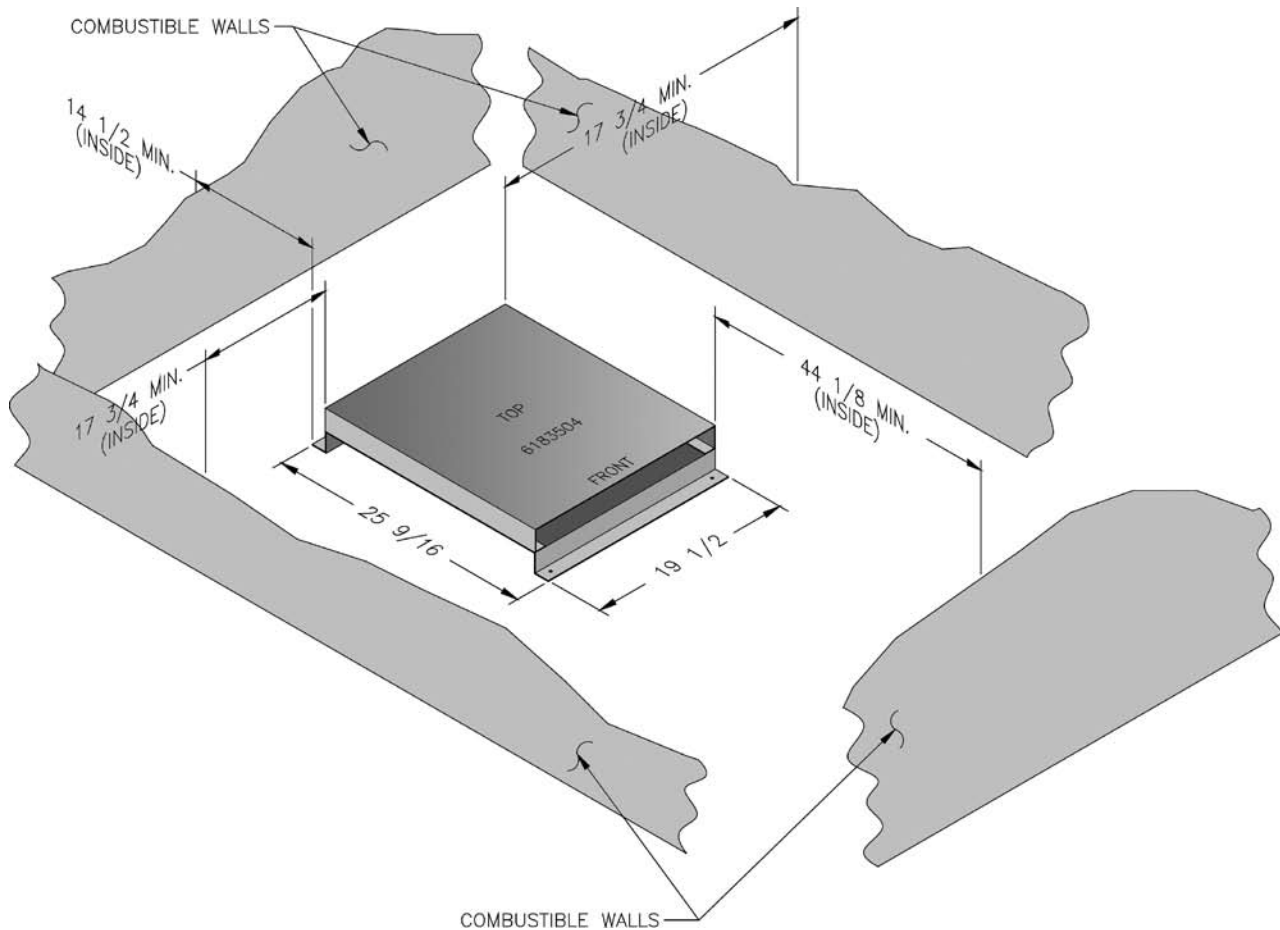

Figure 3: Floor Shield
DO NOT install on carpeting. See Figure 3 for floor shield part number and installation instructions.
- 2) Locate shield such that clearances to combustibles walls are as indicated in Figure 3. These dimensions will assure that the boiler jacket will be at least 18" from the side and rear walls and 48" from the front wall, as required by ANSI/NFPA 31.